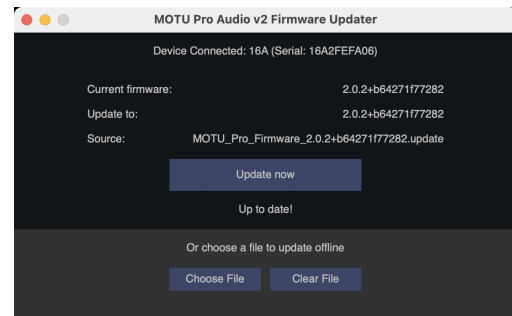

Figure 6-11: The 848 Firmware Updater app.
☞ This step requires that the unit already has firmware version 2.1.5 or later. If not, use the Firmware Updater app (Figure 6-11 on page 59), accessed from the File menu.
- 1** Choose *File menu > Open Firmware Updater* to launch the updater app (Figure 6-11).
- 3** Once the firmware image is loaded, click the *Update Now* button (Figure 6-11).